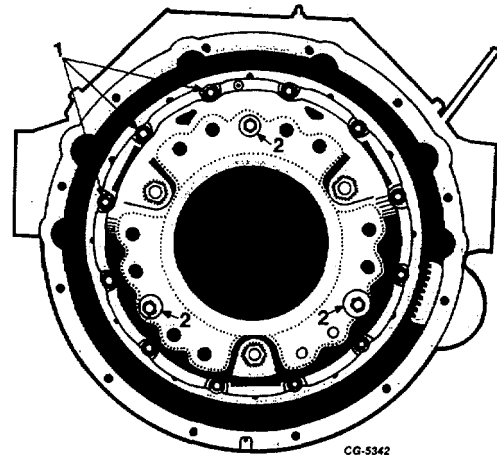

Fig. 49 Clutch Removal
54. The clutch plate should be compressed with three bolts "A" (3/8" 16 x 2") prior to removing the mounting capscrews, Figure 49. This is done to prevent distortion of the clutch cover. Then loosen the clutch back plate-to-fly-wheel retaining capscrews and remove the clutch assembly. Remove main drive gear pilot bearing.